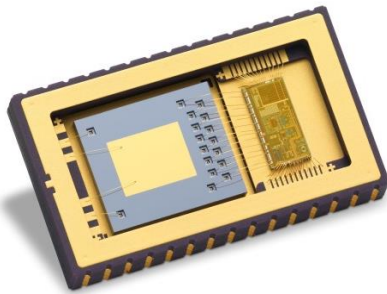

Figure 31 : Inner view of the package, showing the MEMS and IC
The sensing element (MEMS die), which is located on the left part of the Figure 31, is manufactured using Tronics' wafer-level packaging technology based on micro-machined thick single crystal silicon. The MEMS consists of two coupled sub-structures subjected to linear anti-phase vibrations. The structures are vacuumed at the wafer-level providing high Q-factor in the drive mode. The drive system is decoupled from the sense system in order to reduce feedback from sense motion to drive electrodes. The drive anti phase vibration is sustained by electrostatic comb drives. The sense anti phase vibration resulting from Coriolis forces is counter balanced by electrostatic forces. Differential detection and actuation are used for both drive and sense systems and for each sub-structure, keeping two identical structures for efficient common mode rejection.
The integrated circuit (IC), which is located on the right part of the Figure 31, is designed to interface the MEMS sensing element. It includes ultra-low noise capacitive to voltage converters (C2V) followed by high resolution voltage digitization (ADC) for both drive and sense paths. Excitation voltage required for capacitance sensing circuits is generated on the common electrode node. 1-bit force feedbacks (DAC) are used for both drive and sense system actuation.